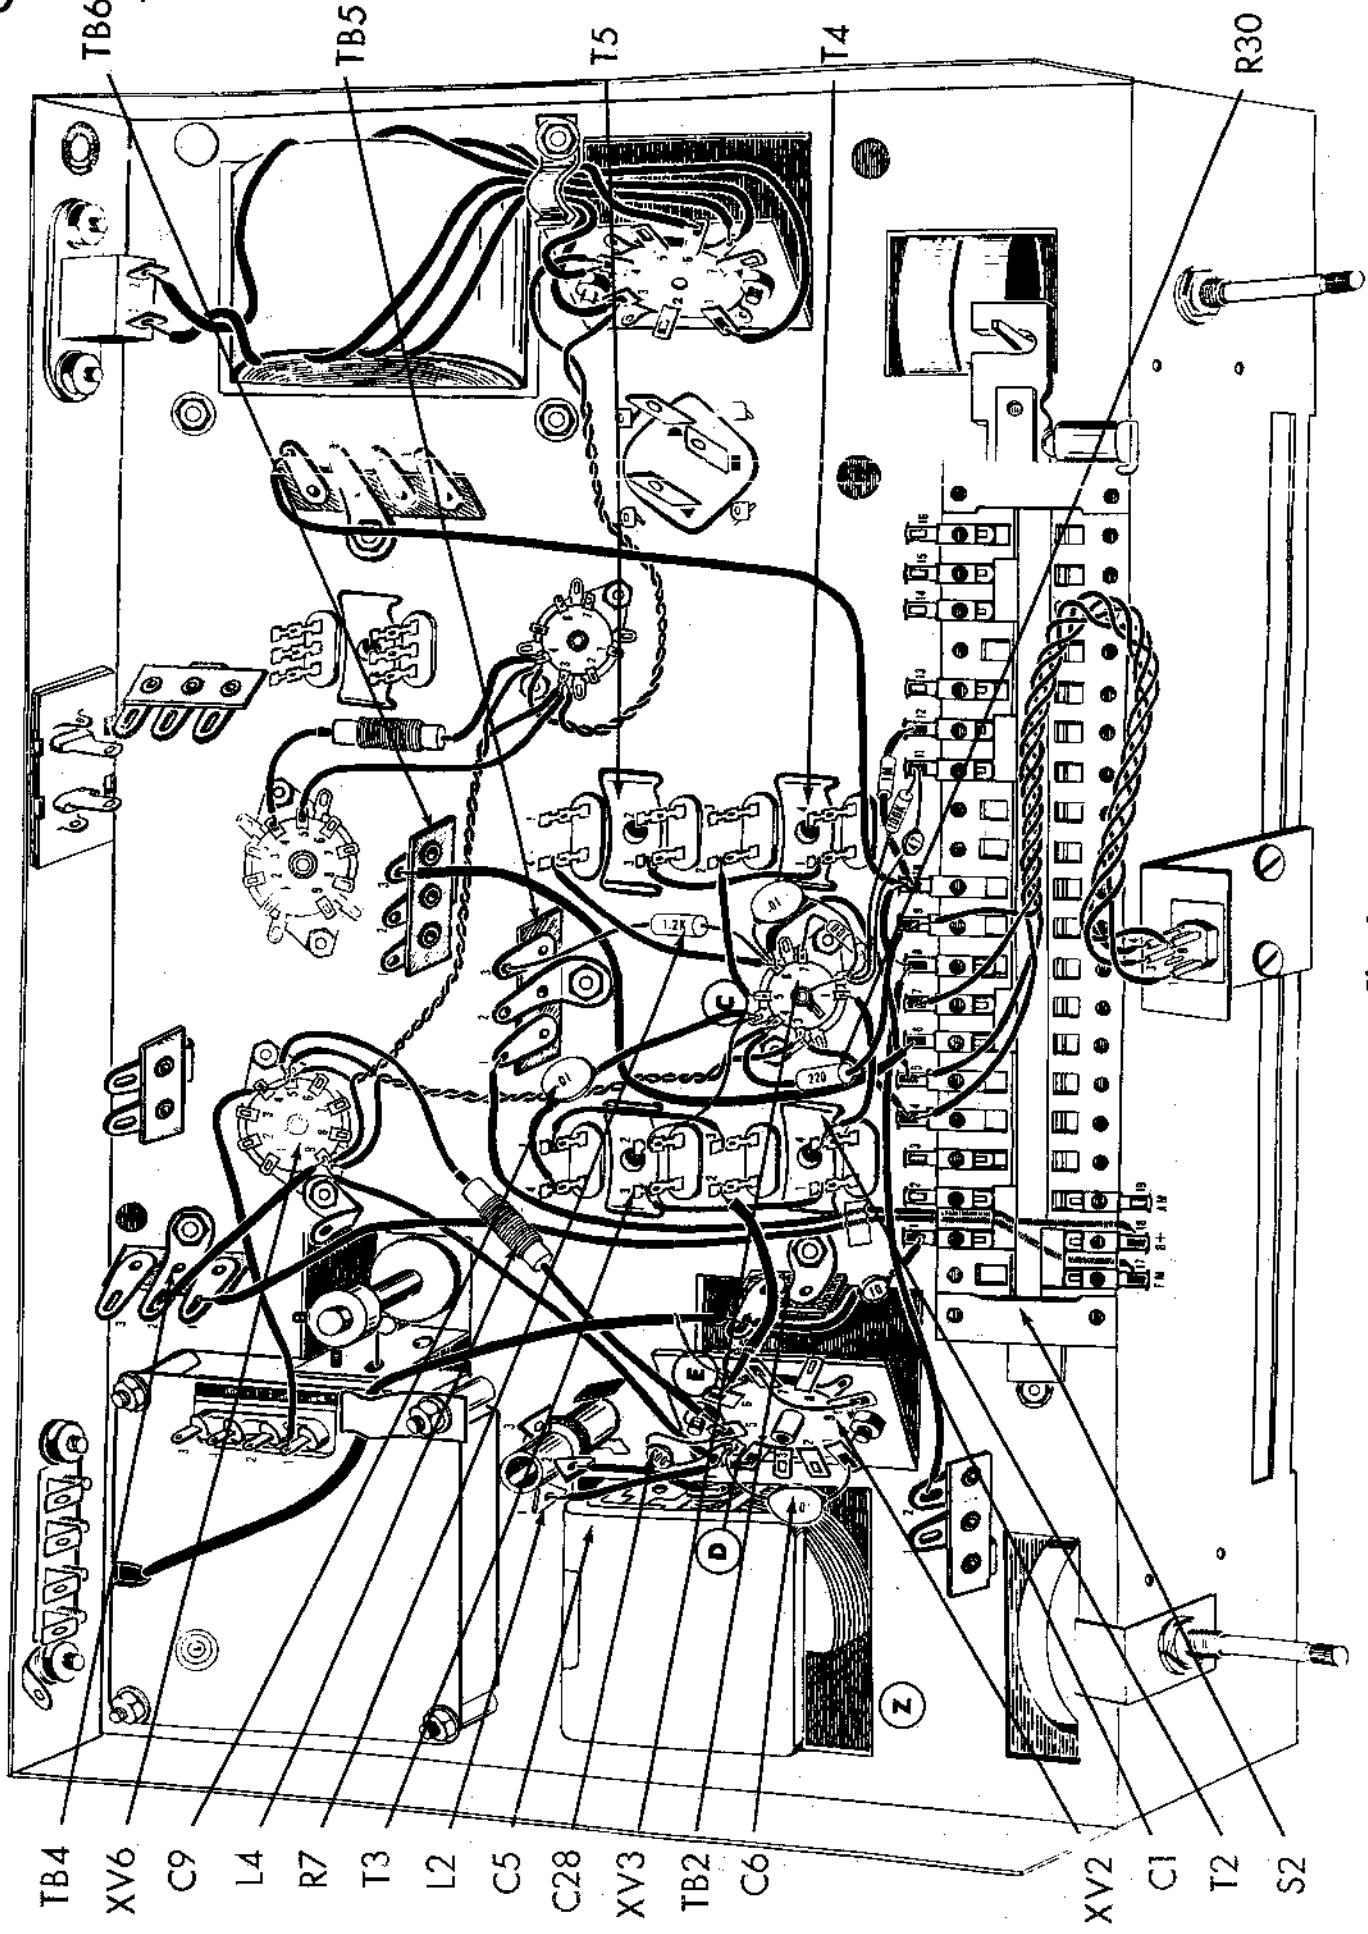

Fig. 6
- (v) 1. Fig. 6. Connect a 1 3/4" piece of red wire from XV3-6 (C) to T5-4 (S1).
- (v) 2. Fig. 6. Connect a 5" piece of violet wire from S2-6 (S1) to TB6-3 (C). Run the wire along chassis as shown.
- (v) 3. Fig. 6. Cut both leads on a 1.2K (brown, red, red, silver) 1 watt resistor, R7, to 3/4". Connect from XV3-6 (S4) to TB5-3 (C). Dress the resistor close to the chassis.
- (v) 4. Fig. 6. Connect a 1 1/2" piece of red wire from T4-1 (S1) to T5-3 (S1).
- (v) 5. Fig. 6. Connect a 1 1/2" piece of red wire from XV3-5 (S1) to T4-2 (S1).
- (v) 6. Fig. 6. Connect a 1 1/2" piece of white wire from XV3-1 (S1) to T2-4 (S1).
- (v) 7. Fig. 6. Bend XV3-2 down to the center post on socket XV3 and solder this pin to the center post.
- (v) 8. Fig. 6. Cut both leads on a 220Ω (red, red, brown, gold) 1 watt 5% resistor, R30, to 3/4". Cover each lead with a 1/2" piece of spaghetti!. Connect from XV3-4 (S2) to S2-9 (S2). Dress the resistor close to the chassis.
- (v) 9. Fig. 6. Connect one end of a 6 1/2" piece of red wire to TB4-1 (C). Run this lead along the chassis, and under switch S2, as shown. Connect the other end of this wire to S2-17 (S1).
- (v) 10. Fig. 6. Connect one end of a 6 1/2" piece of red wire to TB5-1 (C). Run the lead along the chassis and under the switch S2, as shown. Connect the other end of this wire to S2-18 (C). Tape the two pieces of wire (connected in step 9 and 10) to the chassis, as shown, with a small piece of scotch or masking tape.
- (v) 11. Fig. 6. Connect a 1 1/4" piece of bare wire from ground lug "C" (C) at XV3 to T3-2 (S1).
- (v) 12. Fig. 6. Connect a 1 1/2" piece of white wire from T3-1 (S1) to T2-3 (S1).
- (v) 13. Fig. 6. Cut one lead on a .01 mfd (10K or 10,000 mmf) disc capacitor, C9 to 1 1/4". Cover this lead with a 1" piece of spaghetti and con-
- nect to ground lug "C" (S2) at XV3. Cut the second lead to 1/2" and cover with a 1/4" piece of spaghetti. Connect the lead to T3-4 (C).
- (v) 14. Fig. 6. Connect a 1 1/2" piece of red wire from T2-1 (S1) to T3-3 (S1).
- (v) 15. Fig. 6. Cover each lead on RF choke L4 with a 1 1/4" piece of spaghetti. Connect from XV6-5 (S4) to XV2-5 (C). Dress the choke close to the chassis.
- (v) 16. Fig. 6. Cut both leads on a .005mfd (5K or 5000 mmf) 10% disc capacitor, C28, to 1/2". Connect from XV2-5 (S2) to ground lug "D" (C) on XV2.
- (v) 17. Fig. 6. Connect one end of a 1 3/4" piece of white wire to L2-2 (C). Run the other end of the lead through the rectangular cutout "Z" near the variable capacitor C5. Connect the other end of the wire to C5-1 (S1).
- (v) 18. Fig. 6. Connect the outer metal shield of the shielded lead coming from the FM Front End Assembly to ground lug "E" (C) at XV2 and the inner conductor to TB2 (C).
- (v) 19. Fig. 6. Cut both leads on a 10 mmf disc capacitor, C1, to 3/4". Cover each lead with a 1/2" piece of spaghetti. Connect from TB2 (S2) to S2-1 (S1).
- (v) 20. Fig. 6. On the short piece of shielded cable supplied, one end has two leads (the inner conductor and the shield) and the second end has one lead (only the inner conductor). From the end with the two leads, twist the outer shield strands together. Connect the shield strands to ground lug "E" (S2) at XV2 and the inner conductor to TB2-6 (S1). From the other end of this cable, connect the inner conductor to T2-2 (S1). Do not use too much heat when soldering the center conductor on outer shield to their respective terminals. Excessive heat will cause the insulation to melt resulting in a short circuit.
- (v) 21. Fig. 6. Cut both leads on a .01 mfd (10K or 10,000 mmf) disc capacitor, C6 to 1/2". Connect from XV2-1 (C) to ground lug "D" (C) on XV2.
- (v) 22. Fig. 6. Connect a 1 1/2" piece of black wire from L2-1 (S1) to ground lug "D" (C) on XV2.
- (v) 23. Fig. 6. Connect a 3/4" piece of bare wire from XV2-7 (C) to XV2-9 (S1).